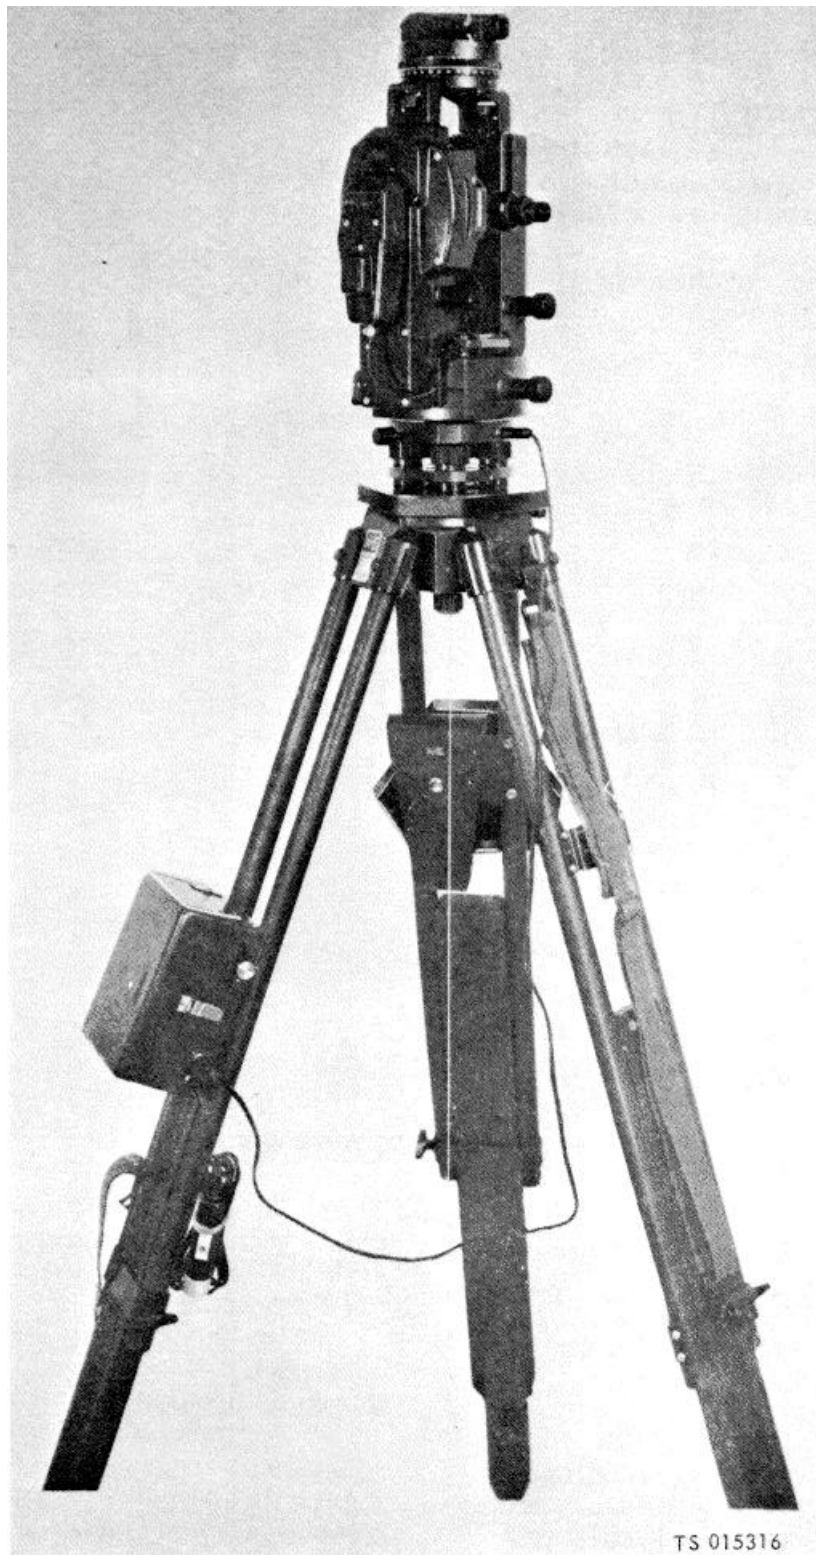

Figure 2-9. Illumination system, installation.
b. *Night or Dark-Day Operation.* Refer to figure 2-9 and install the illumination system.
| Battery case rheostat | Adjustable resistor | Controls degree of bubble, circle, and telescope reticle illumination (fig 2-9) |
| Hand lamp knob | On-off switch | Energizes hand lamp bulb (fig 2-9) |